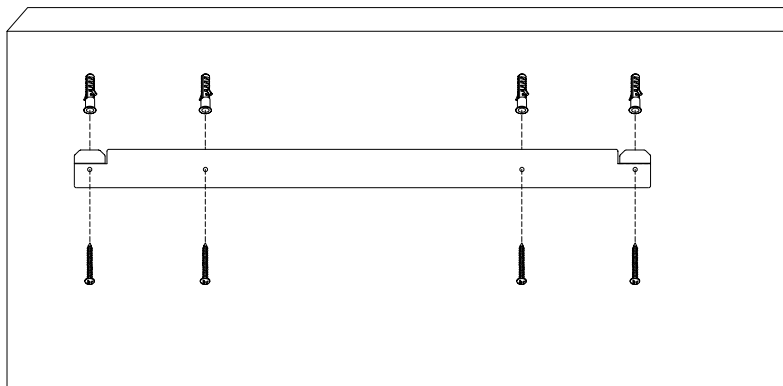

Fig. 4
5. Hang the fireplace on the mounting strip (see figure 4).